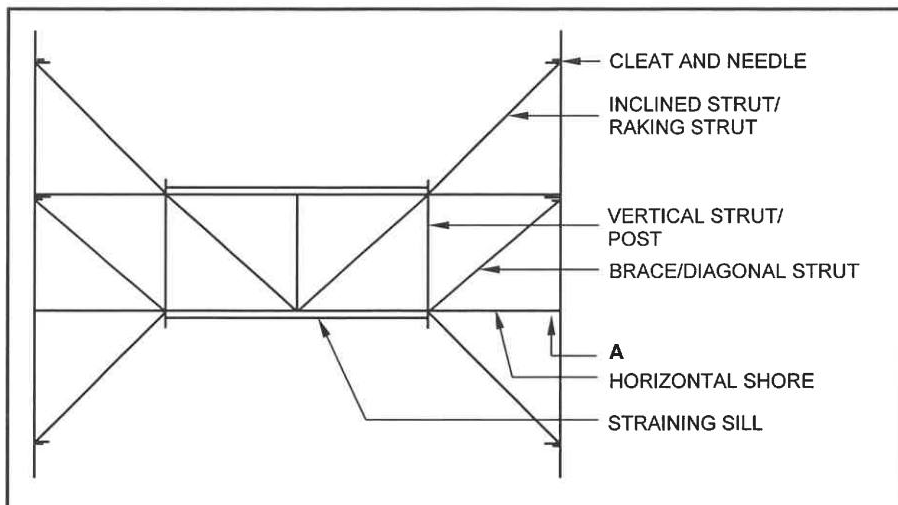

FIGURE 5.2
- 5.2 FIGURE 5.2 below shows a line diagram of a shore. Analyse the drawing and answer the questions that follow.